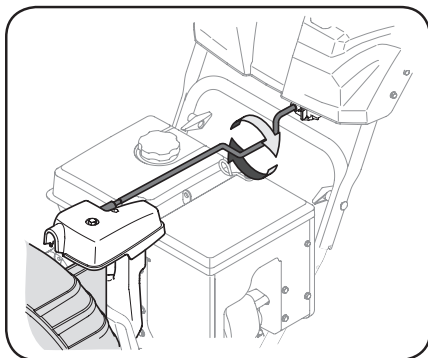

Figure 3-12
- Grasp indented portion of chute control rod and manually rotate chute assembly to the right or to the left. See Figure 3-12.